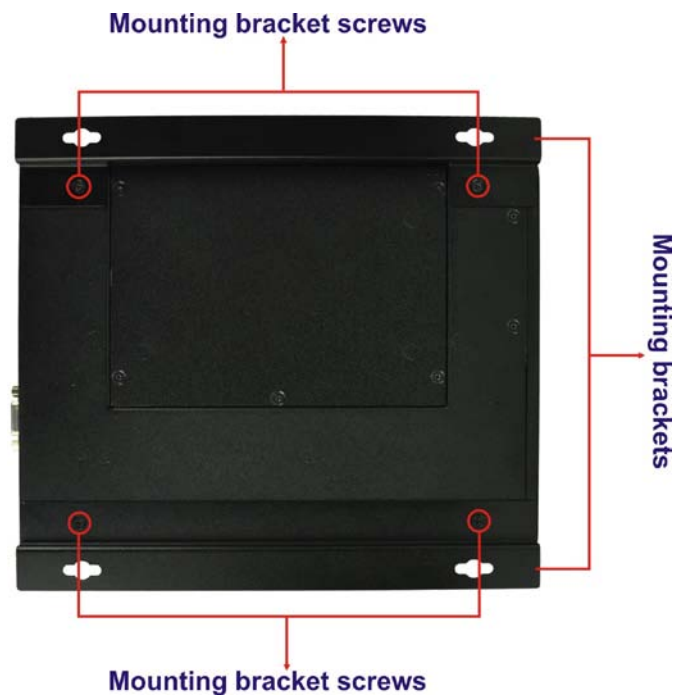

Figure 3-8: Mounting Bracket Retention Screws
- Step 3:** Secure the brackets to the system by inserting two retention screws into each bracket as illustrated in **Figure 3-8**.
Please make sure to face the I/O panel sideward (**Figure 3-8**) when mounting the system.